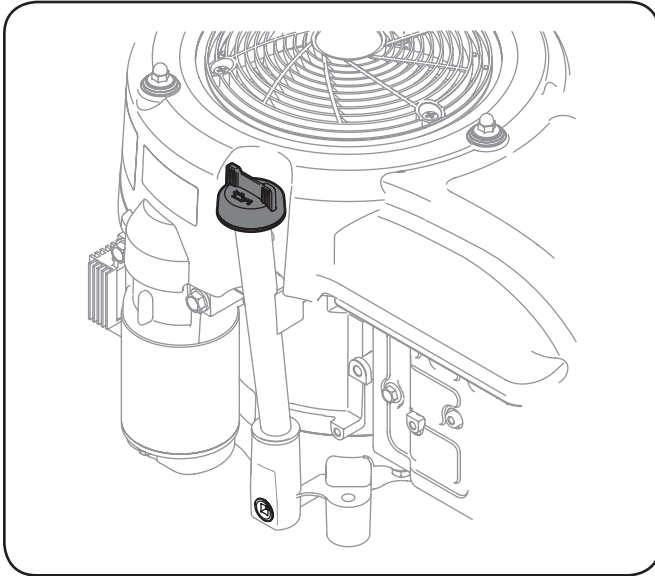

Figure 6-3
1. Wipe around dipstick cap and tube with a clean cloth to remove any debris. See Figure 6-3.